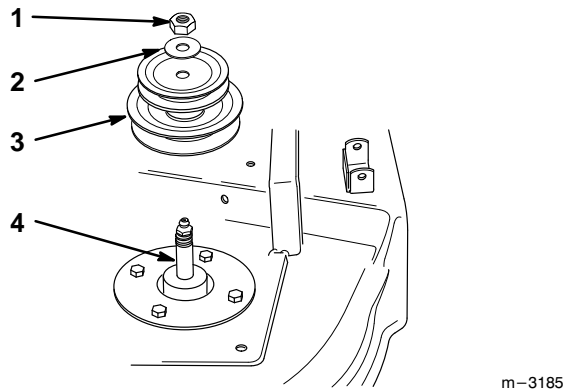

Figure 8
15. Slide new long spindle up from the bottom into housing. Install the new double pulley with the larger diameter pulley on bottom and secure with existing washer and nut.(Fig. 8).